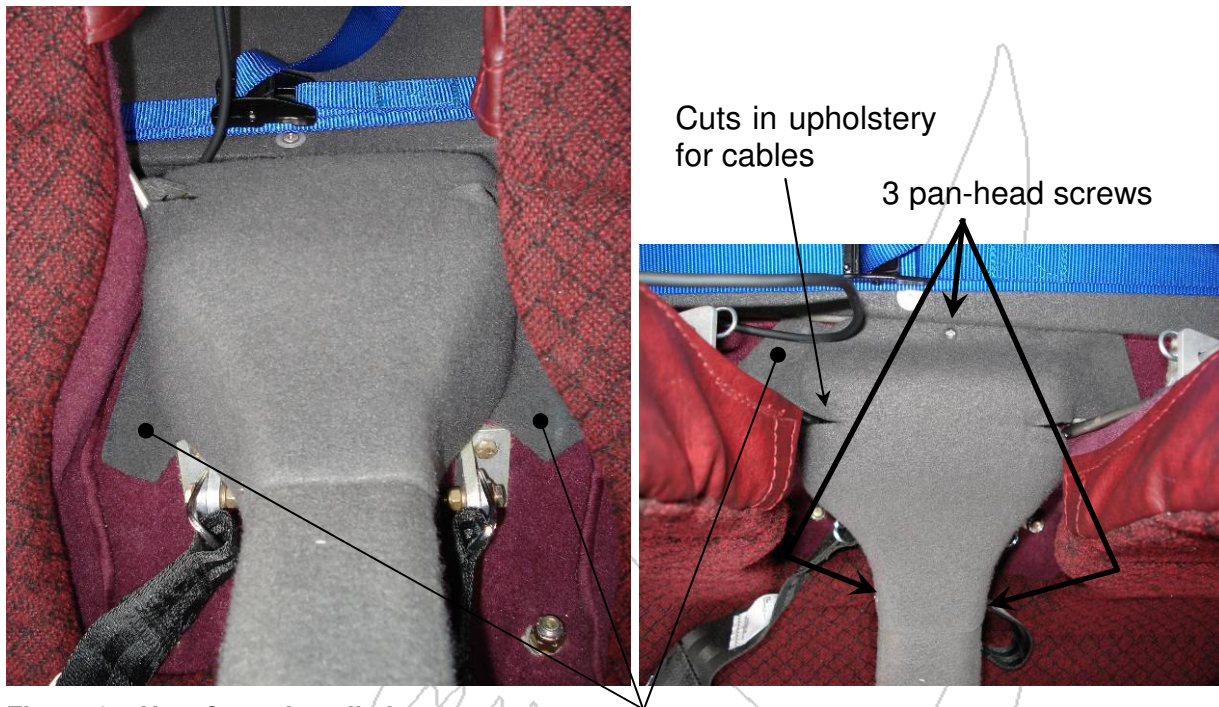

Figure 2 – New Cover Installed
- c) Trial fit the new part. Figure 2 shows the new cover fitted to the aircraft. To fit the cover the overhanging upholstery has been trimmed back in most areas. Tabs with Velcro fitted have been left at the front and back of the part to seal the cover onto the aircraft structure. Small cuts have been made in the upholstery to allow the aileron cables to pass through.